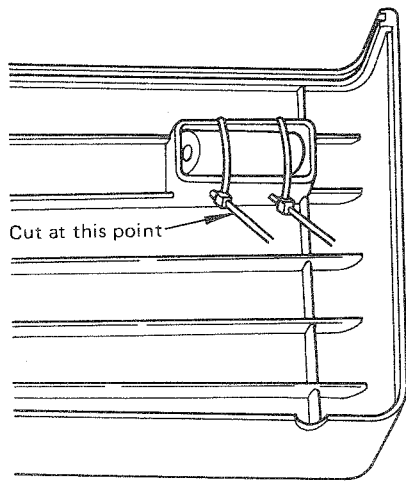
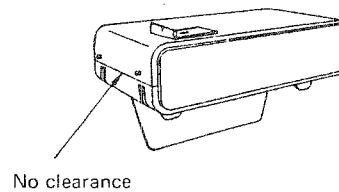

Fig. 42
Fig. 43
(1) How to replace a battery
- ① Write all patterns presently in use on paper.
- ② Turn the power OFF.
- ③ Remove the six screws retaining the CPU box cover, and lightly lift the panel side of the CPU box cover to remove the CPU panel from the cover grooves. Then, slide the CPU box cover back until connector J22 appears as illustrated. (At this time, do not forcibly remove the CPU box cover because the CPU box cover is connected with the CPU circuit board through connector J22.)
- ④ Hold the lock tab of the battery connector J22 and draw the connector out.
- ⑤ Remove the battery from the rear of the CPU box cover by cutting the nylon band of the battery.
- ⑥ Fix the new battery with the nylon band supplied with the battery. (See Fig. 42.)
- ⑦ Cut off the excess of the nylon band as shown in Fig. 42.
- ⑧ Connect the connector of the new battery to J22.
- ⑨ Fit the control panel into the grooves of the CPU box cover, and fix the cover with the six screws. (At this time, be careful not to leave any clearances around the periphery of the cover. See Fig. 43.)
- ⑩ Turn the power ON, and check each pattern. (If the battery replacement is completed within 30 min., all patterns are still in memory.) If any of the patterns is not correct, reset the patterns.